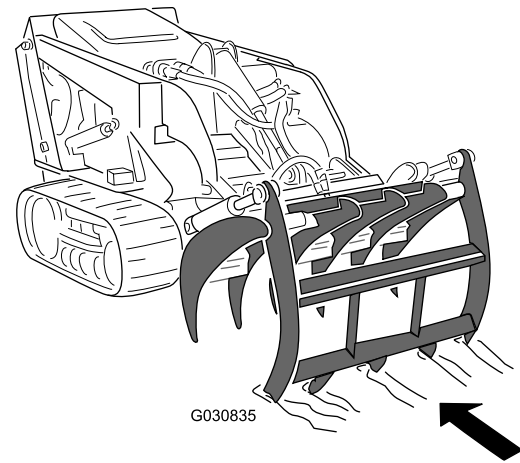

Figure 4
**Note:** You can also perform this operation with the jaws closed, because the upper teeth protrude through the lower jaw (Figure 4).